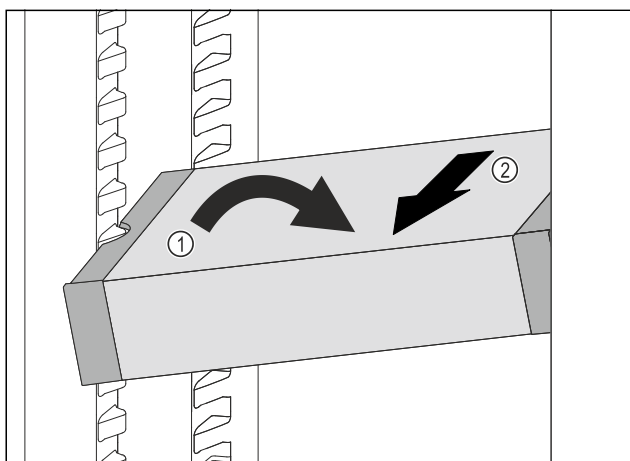

Fig. 124
- Set VarioSafe in refrigerator compartment at an angle. Fig. 124 (1)
- Take VarioSafe out to the front. Fig. 124 (2)